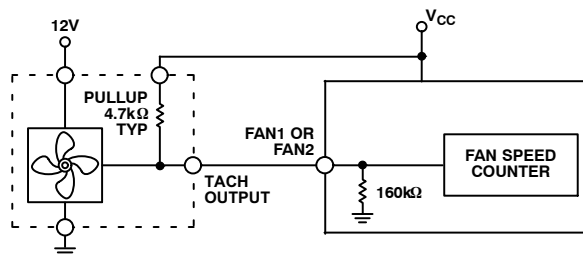

Figure 25. Fan with Tach Pullup to  $+V_{CC}$
1. All of these circuits will provide an output range from 0 V to almost 12 V, apart from Figure 25 which loses the base-emitter voltage drop of Q1 due to the emitter-follower configuration.
Figure 25 to Figure 28 show circuits for most common fan tachometer outputs.
If the fan tachometer output has a resistive pullup to  $V_{CC}$ , it can be directly connected to the fan input, as shown in Figure 25.